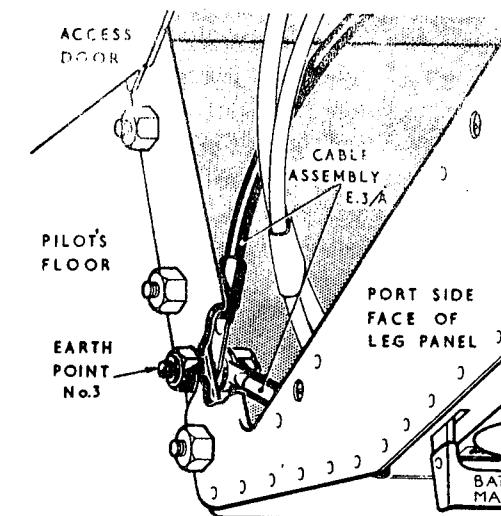

Fig.3 Earth point 3
- (1) Render the aircraft electrically safe, as described in Group A.1..
- (2) Disconnect the Bowden cable from the rudder bar release lever at the top of the leg panel and stow it away from the panel.
- (3) Disconnect cable assembly A11 from cable assembly A111 at the plug and socket break, located on the port side of the instrument panel mounting structure. Remove any straps and clips securing the A.11 cable and coil it back to the leg panel. Fit an approved cap and cover to the plug and socket.
- (4) Disconnect cable assembly E3/A from earth point 3, obtaining access via the hinged door in the port side of the leg panel (fig.3).
- (5) Disconnect all the plugs and sockets on the cable assemblies at the leg